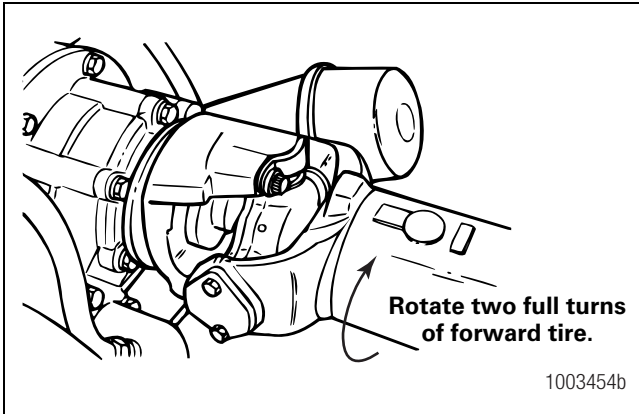

Figure 4.16
6. Turn the forward drive shaft in one direction by hand until the forward tire completes two rotations. Figure 4.16. The forward tire must rotate two times only. If the forward tire rotates more than or less than two rotations, the angle measurements you make in Step 7 will be inaccurate.